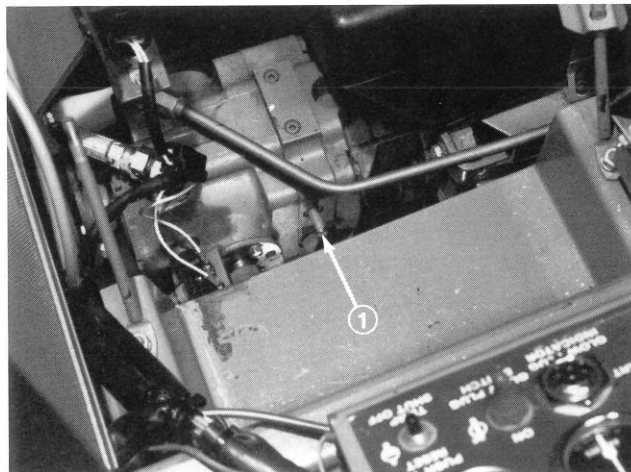

Figure 29
1. Reach under traction unit and rotate by-pass valve (Fig. 29) 1/2 to 1 turn counterclockwise. Opening the valve opens an internal passage in the transmission, thereby by-passing transmission oil. Because fluid is by-passed, traction unit can be moved without damaging the transmission.